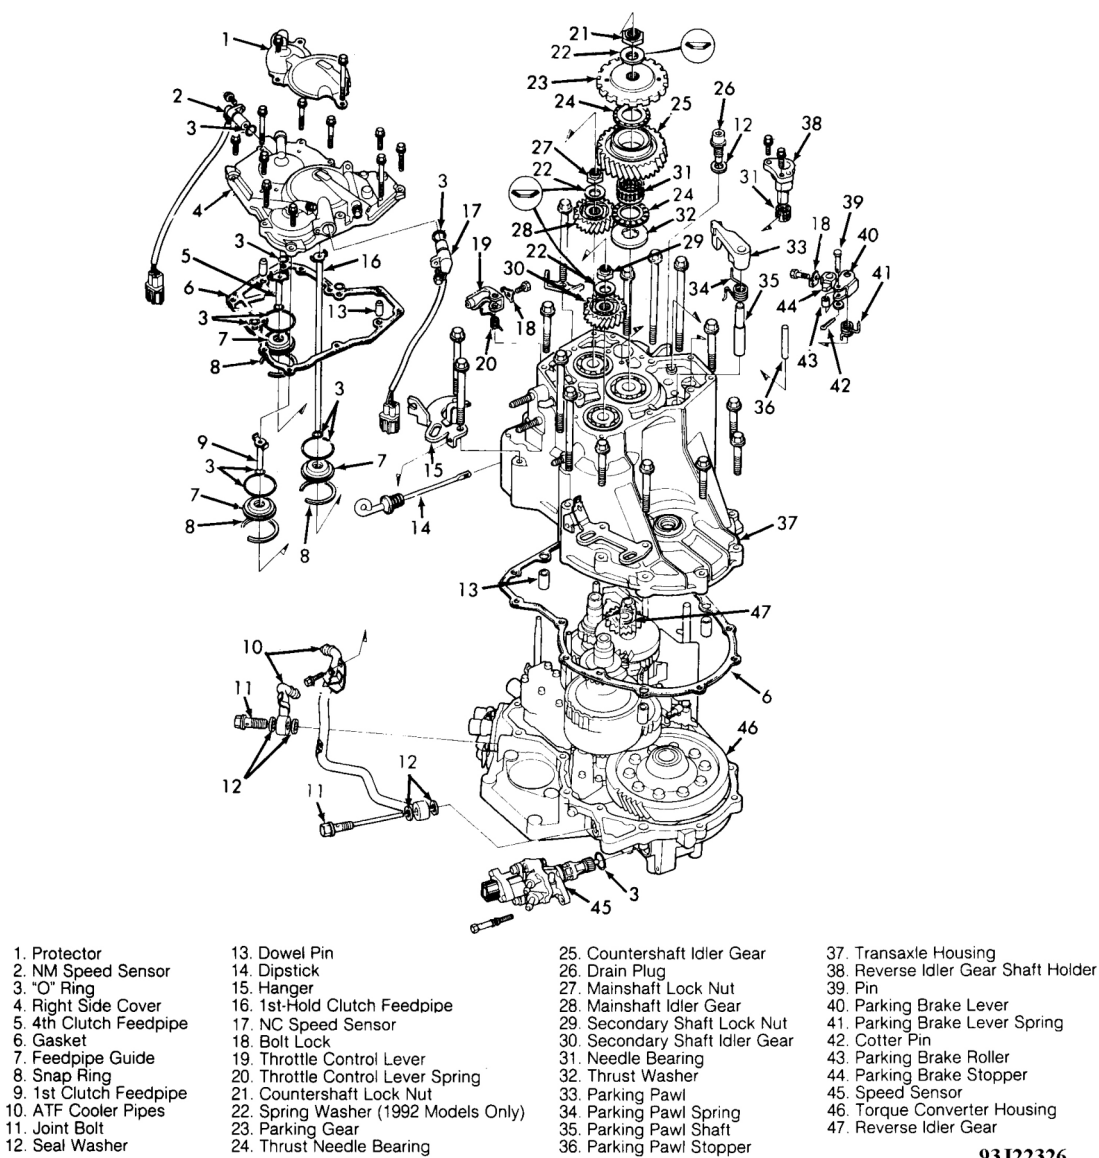
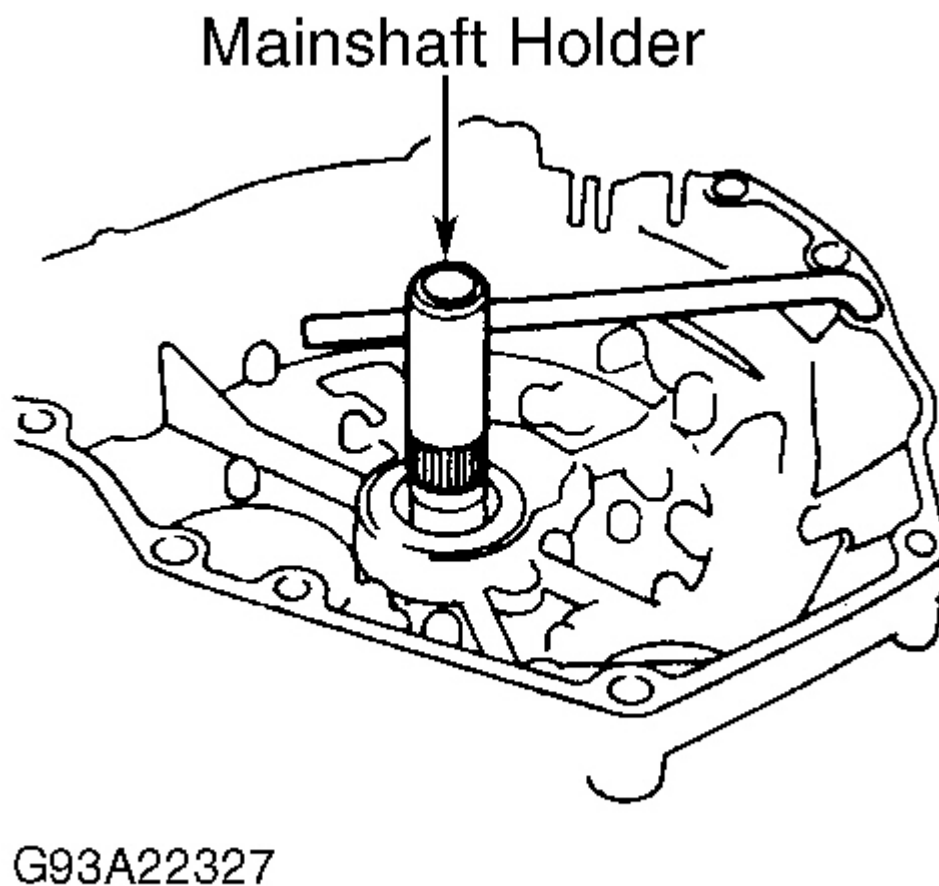

Fig. 5: Exploded View Of Right Side Cover & Components
Fig. 6: Installing Mainshaft Holder
1. Remove retaining bolts, right side cover and gasket. See **Fig. 5** . Install Mainshaft Holder (07GAB-PF50100) on mainshaft to secure it. See **Fig. 6** .
2. Engage parking pawl with parking gear. Using hammer and chisel, cut lock tabs on countershaft, mainshaft and secondary shaft lock nuts. Remove lock nuts and spring washers (1992 models). See **Fig. 5** . Mainshaft lock nut has left-hand thread.
4. Remove countershaft idler gear, needle bearing, thrust needle bearing and thrust washer. See **Fig. 5** . Remove parking pawl, parking pawl spring, parking pawl shaft and parking pawl stopper.
5. Remove throttle control lever and spring from throttle control shaft. See **Fig. 5** . Remove ATF cooler pipe-to-hanger retaining bolt. Remove transaxle housing bolts. Remove bolts and reverse idler gear shaft holder. See **Fig. 5** .